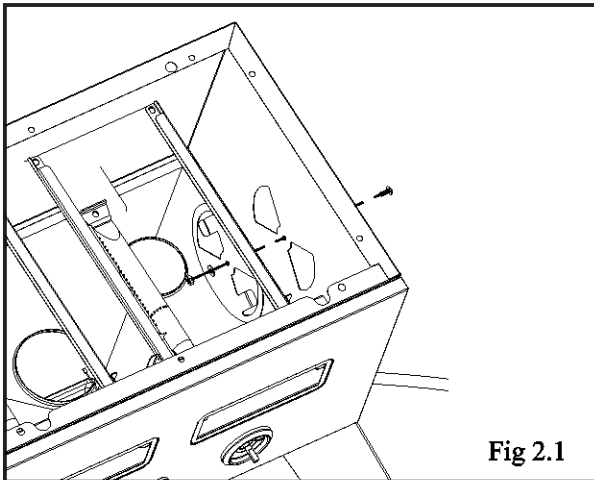

Fig 2.1
Procedure: Attach the damper to the inside of the right side of lower cabinet using (1) 10-24x1/2" bolt, (1) 10-24 hex nut and (1) #10 washer. Repeat for left side of lower cabinet. Fig 2.1.